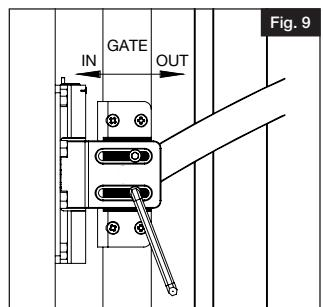

Fig. 9
- g.) Hinges can be adjusted horizontally from 3/8" - 1 1/2". Use provided allen wrench to adjust horizontal set screws left or right (Fig. 9).